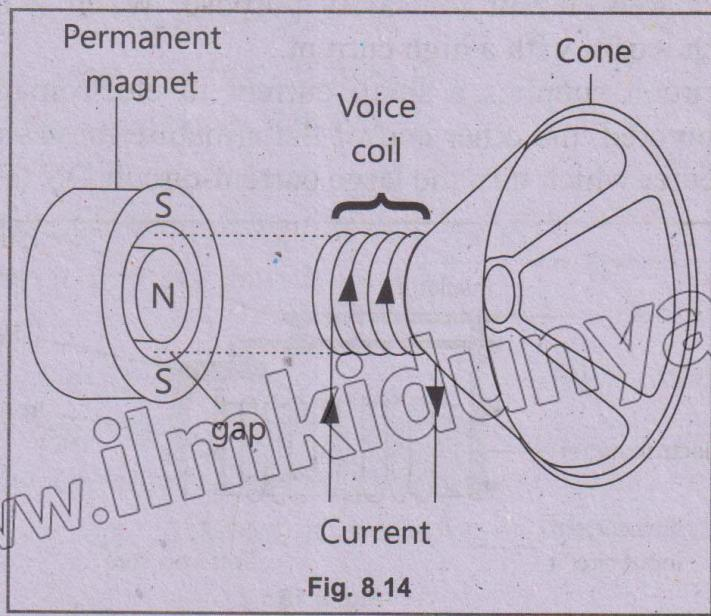

Fig. 8.14
A voice coil attached to the cone of the speaker is lipped over one pole (N) of the radial permanent magnet as shown in Fig. 8.14. From a microphone or some other sound signals in the form of varying (AC) current passes through the voice coil that is inserted in the gap of permanent magnet. This AC interacts with the magnetic field to generate a varying force that pushes and pulls on the voice coil and the attached cone. The cone vibrates back and forth to produce sound in the air.